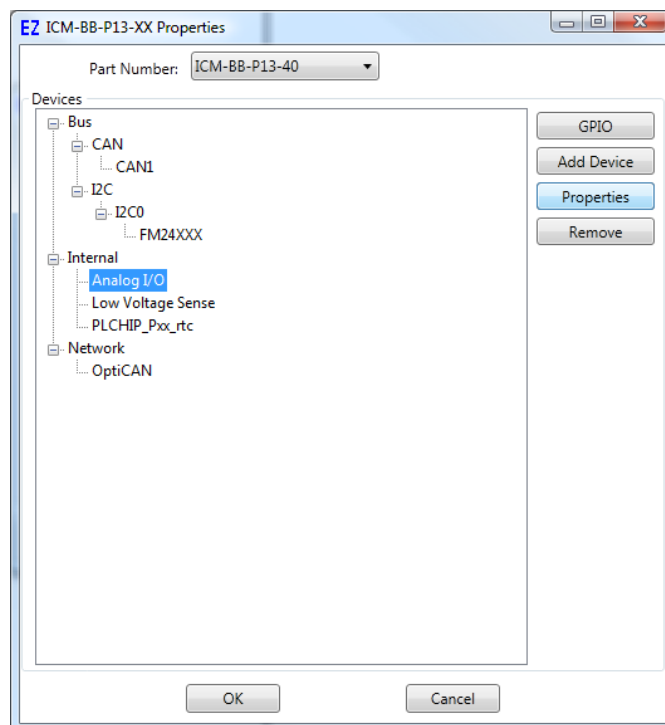
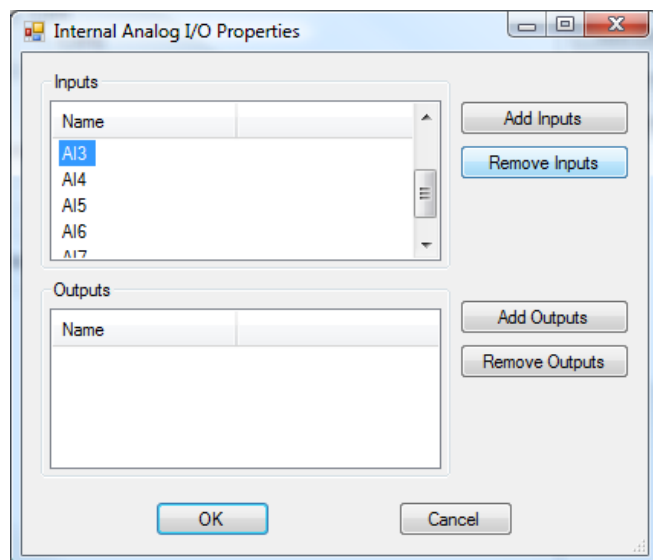

Figure 2-6 - Select Analog I/O
Figure 2-7 - Remove AI3 Analog Input
3. Click on (highlight) the Analog I/O under the Internal heading. Click the **PROPERTIES** button. Refer to Figure 2-6. The *Internal Analog I/O Properties* dialog window will open. The inputs pane shows the analog inputs listed AI0 through AI7. Select (highlight) the AI3 item shown in the Inputs pane and click the **REMOVE INPUTS** button. Refer to Figure 2-7. The analog input AI3 is now removed.